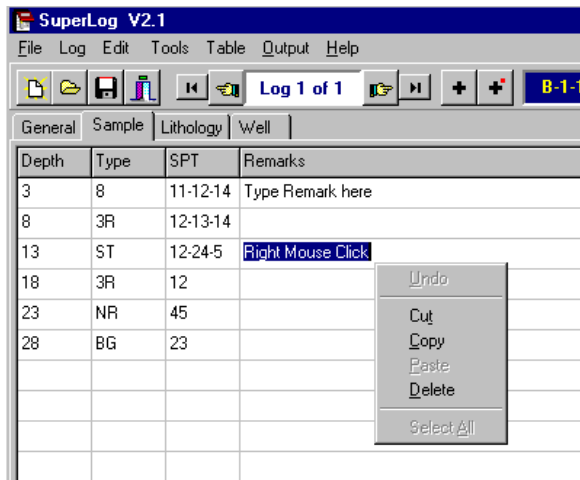

Figure 3-6 Use Right Mouse Click to Cut/Copy/Paste Text
5. Copy Text – Use the mouse to click the cell you wish to copy. The text in the cell will be highlighted. Then, press the **right** mouse button and select “copy” from the edit panel. See Figure 3-6.